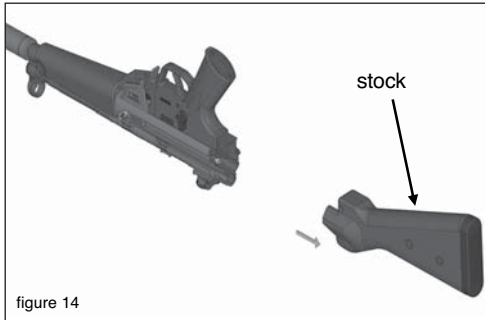
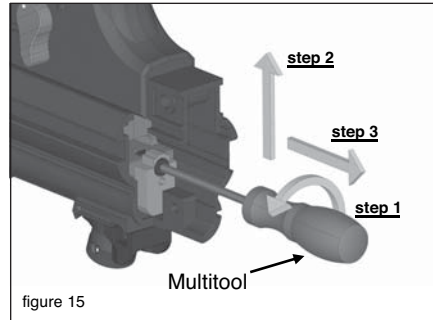

figure 14
figure 15
5. Remove the stock (figure 14) and unscrew the breech-fixing-part with the multitool (figure 15)
6. Put the breech fixing part into the receiver with the multi-tool and move the breech fixing part into its slot exactly in front of the breech housing (see figure 15 and 16 on page 24).